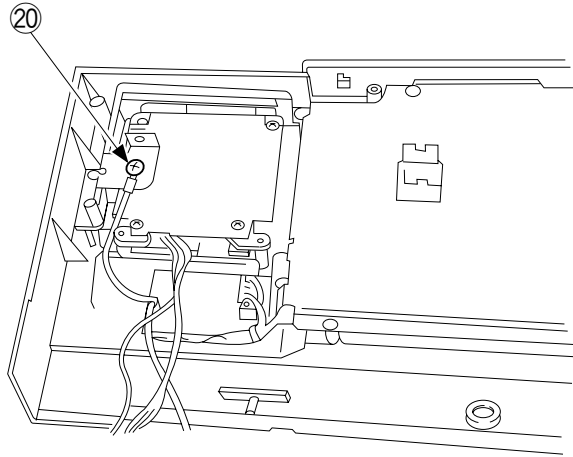

Figure 9-414
14) Install the grounding wire ⑳ of the control card as shown in Figure 9-414.